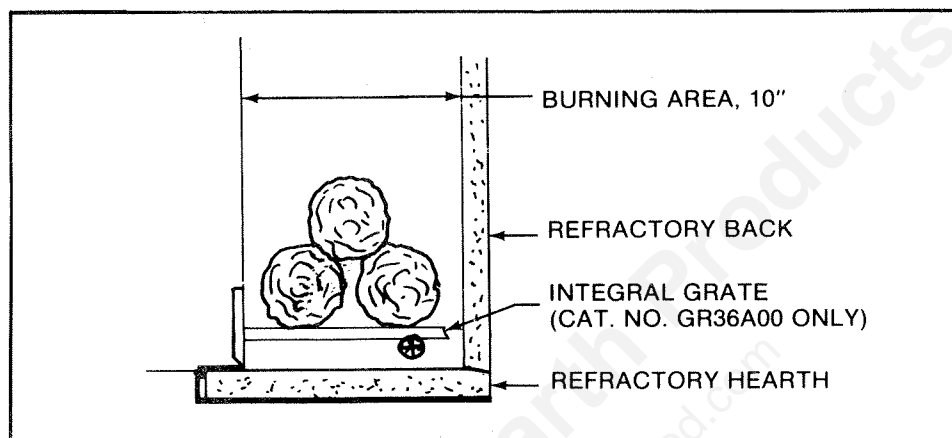

Figure 2
- E. **GRATE.** The factory installed Integral Grate must be used to hold the logs from falling out of an open fireplace and to allow air to pass between the burning logs. It is important to keep the fire off the hearth and to allow the ashes to collect beneath the fire, thereby forming a layer of additional heat protection. See Figure 2. Use only Catalog Number GR36A00 Integral Grate for replacement.
H. **SETTING THE FIRE.** Check the flue damper to be sure it is fully open. Place crumpled or twisted paper under the Grate. Loosely arrange kindling or small pieces of wood to form a layer above the paper. Place three logs in a rough pyramid as shown in Figure 2, being sure to allow free air space between the logs. Small sticks of wood may be used to separate the logs. **NOTE:** When heated the first time, the temperature of the fireplace must be raised gradually, to prevent moisture within the refractory from causing cracks, and to allow the binders in the insulation to dissipate.